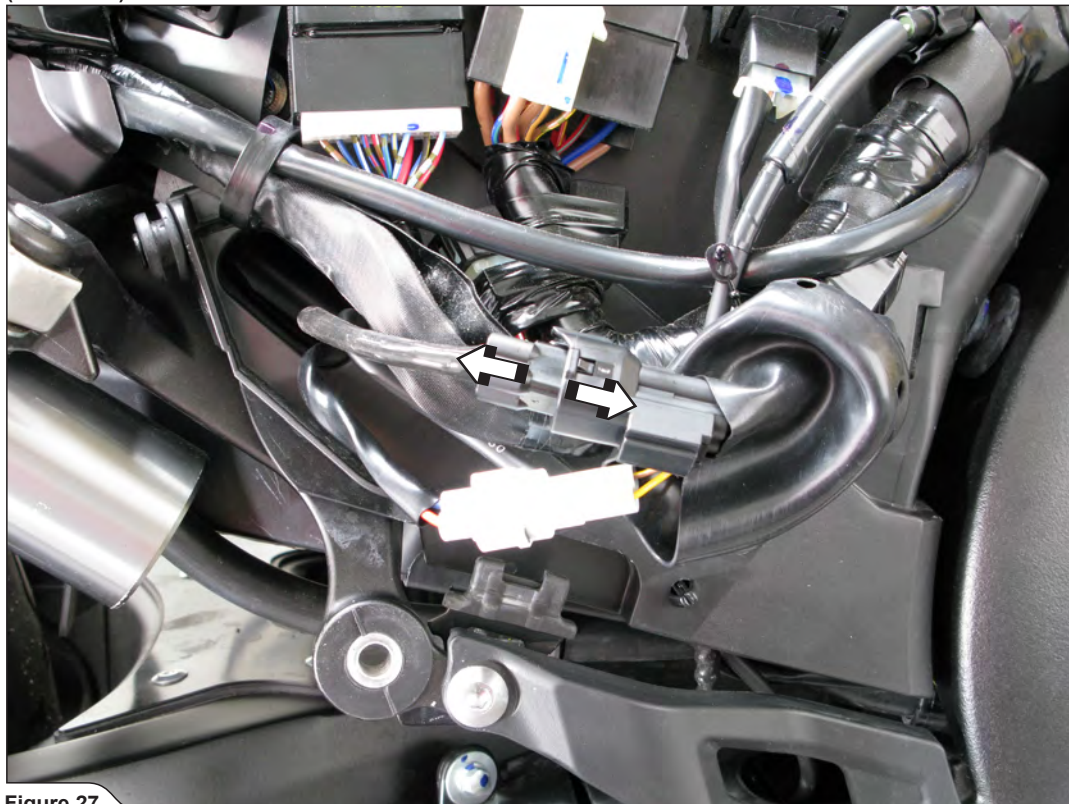
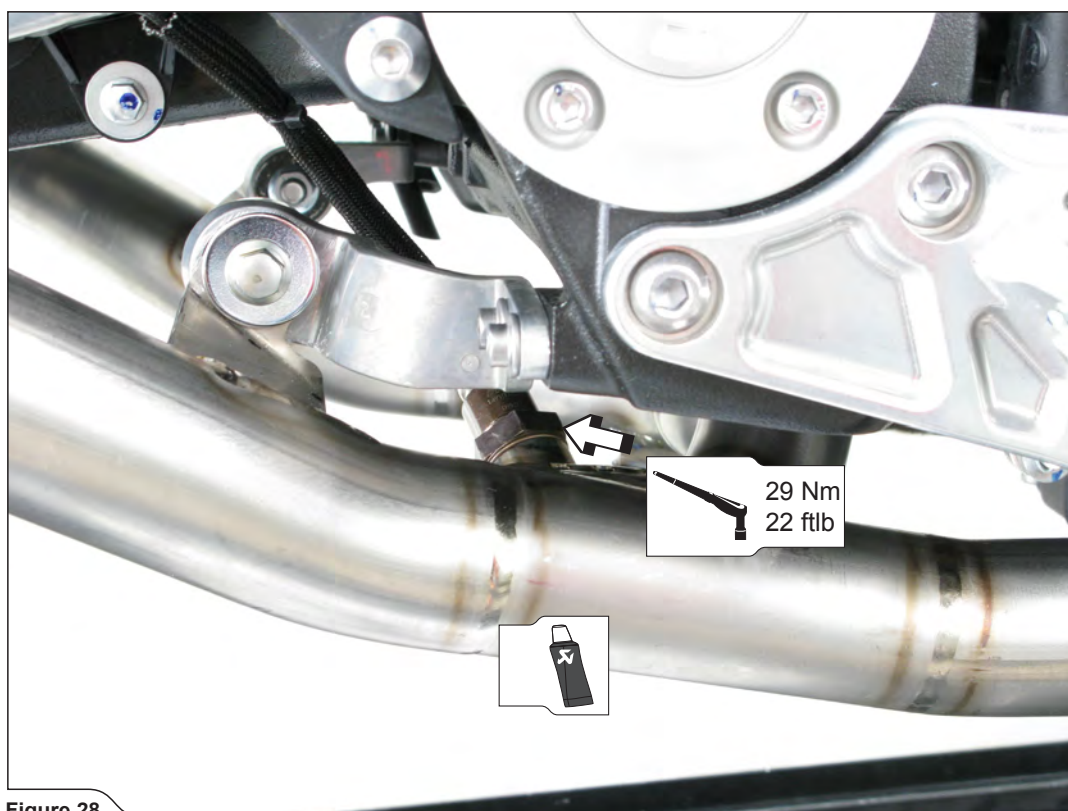

Figure 27
Figure 28
6. **For OPEN SLIP-ON only:** disconnect the connector of the lambda sensor and correctly reposition the electrical lead of the lambda sensor, so it can be installed onto the Akrapovič collector (**Figure 27**). Tighten the lambda sensor and attach the electrical lead of the lambda sensor using plastic ties; cut away excess (**Figure 28, 29, 30**).